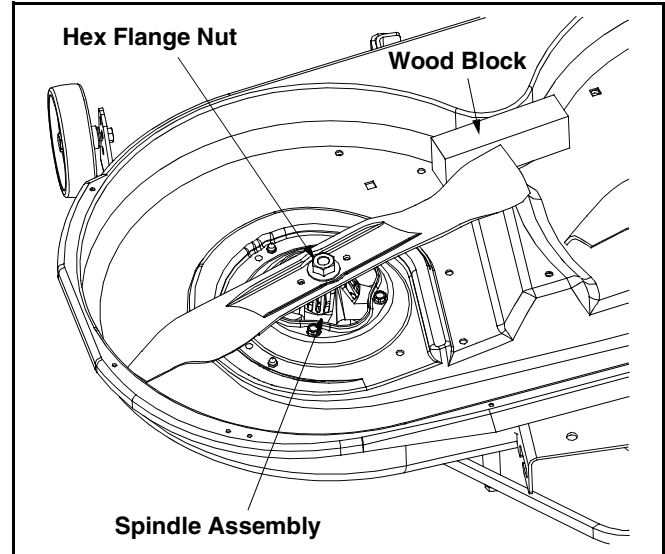

Figure 28
- Place a block of wood between the center deck housing baffle and the cutting blade to act as a stabilizer. See Figure 28.
- Use a 15/16" wrench to remove the hex flange nut that secures the blade to the spindle assembly. See Figure 28.